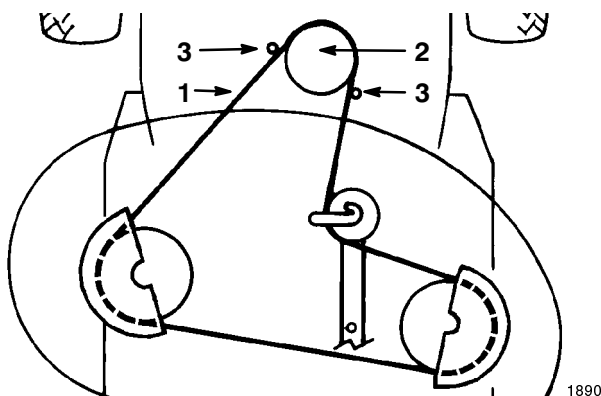

Figure 40
14. Remove the mower belt from the lower engine pulley (Fig. 40). If you are careful, you can flex the belt guide(s) just far enough away from the pulley to remove the belt. If it is too difficult to remove the belt, loosen the bolts and nuts securing the belt guides.
4. Install mower belt onto the lower engine pulley (Fig. 40). If you are careful, you can flex the belt guide(s) just far enough away from the pulley to install the belt. If it is too difficult to install the belt, loosen the bolts and nuts securing the belt guides.